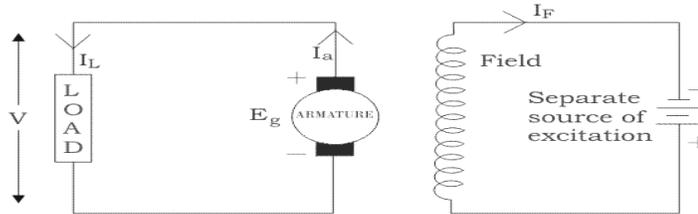

Fig. 4.7
1. **Separately excited generator:** This kind of generator, the field winding is excited by a separate dc source as shown in fig. 4.7.